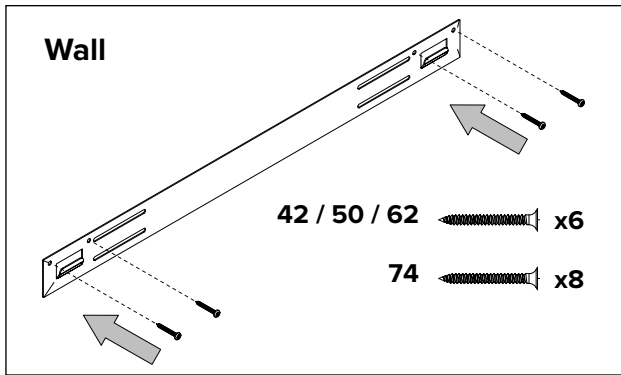

Fig. 3
5. Mark out the location, then mount the bracket onto the wall using screws and anchors where necessary (supplied). This bracket **MUST** have the hooks facing upward and it **MUST** be level (**Fig. 3**).